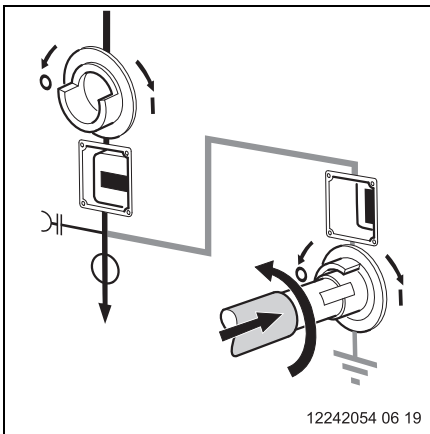

Fig. 45
**3** Switch off the earthing switch. Hold the switching lever (red shaft) depressed to the end stop against spring pressure and turn it anti-clockwise (Fig. 45).